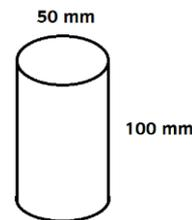

Figure 1
b) Using the formula identified in a), calculate - in cubic centimetres - the capacity of the engine cylinder shown in Figure 1. Show all workings in your answer.